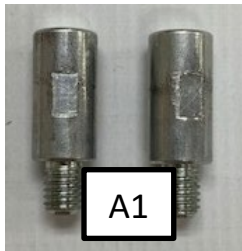

Figure 18
A. Install and tighten the 2 Safety Tube Studs (A1) onto each rear threaded hole on the Trap Body Assembly (TB1), as shown in figure 18. Use a 12mm wrench.